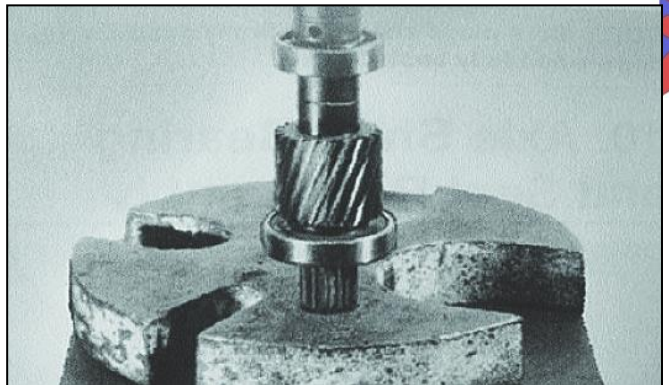

Figure 7-17
1. Prior to installing, wipe new O-rings with SAE 30 weight oil. Install one O-ring (5) into outer input bearing bore.. Install two O-rings (5) into intermediate shaft bearing bores and two O-rings (12) onto intermediate shaft and gear assembly (13).
2. Press inner and outer bearings (6, 7) on input shaft (9) until seated against bearing shoulders. See Figure 7-17.